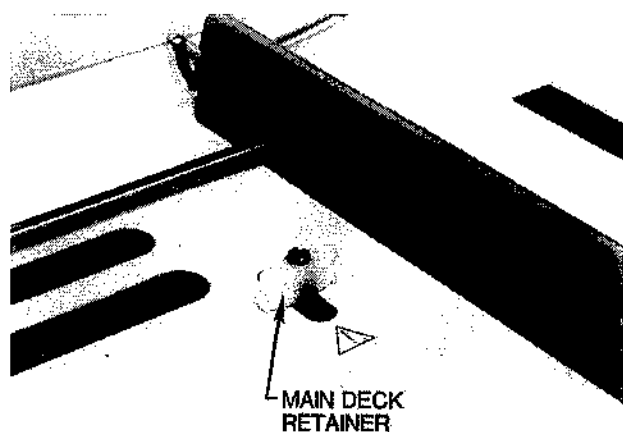

FIGURE 4.4 MAIN DECK RETAINER
- I. CHECK MAIN DECK** by pivoting the Air Curtain Cover to the vertical position and checking the Main Deck Retainer; the retainer should be positioned as shown in Figure 4.4. Lower the Air Curtain Cover and reinstall the Mattress Tray.